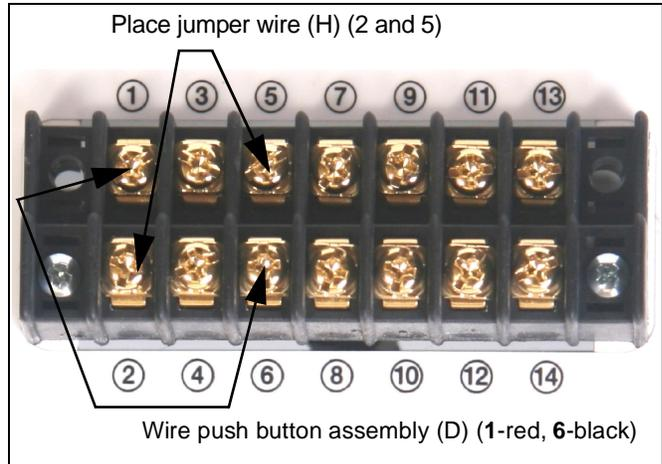

Figure 3
5. Place the jumper wire (H) on the external wiring terminal contacts labeled **2** and **5**, and wire the push button assembly (D) to contacts **1** (red) and **6** (black). (See Figure 3).
2. Remove the jumper wire and supplied push button wiring (previously installed in the **Pre-Test Lift before Installation** section) from the external terminal block. (See Figure 3)
**NOTE:** Any knockouts removed in the SL151 must be replaced with a supplied rubber grommet (G).
5. Secure cables as necessary using supplied mounting pads (E) and cable ties (B).